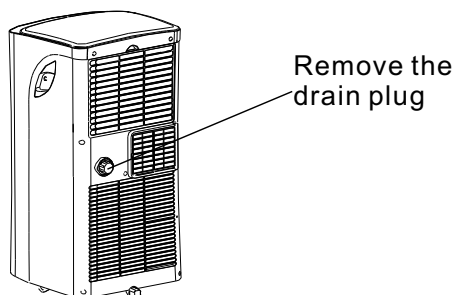

Fig.21
- During dehumidifying modes, remove the drain plug from the back of the unit, install the drain connector (5/8" universal female mender) with 3/4" hose (locally purchased). For the models without drain connector, just attach the drain hose to the hole. Place the open end of the hose directly over the drain area in your basement floor. Please refer to Fig.21 & 22.